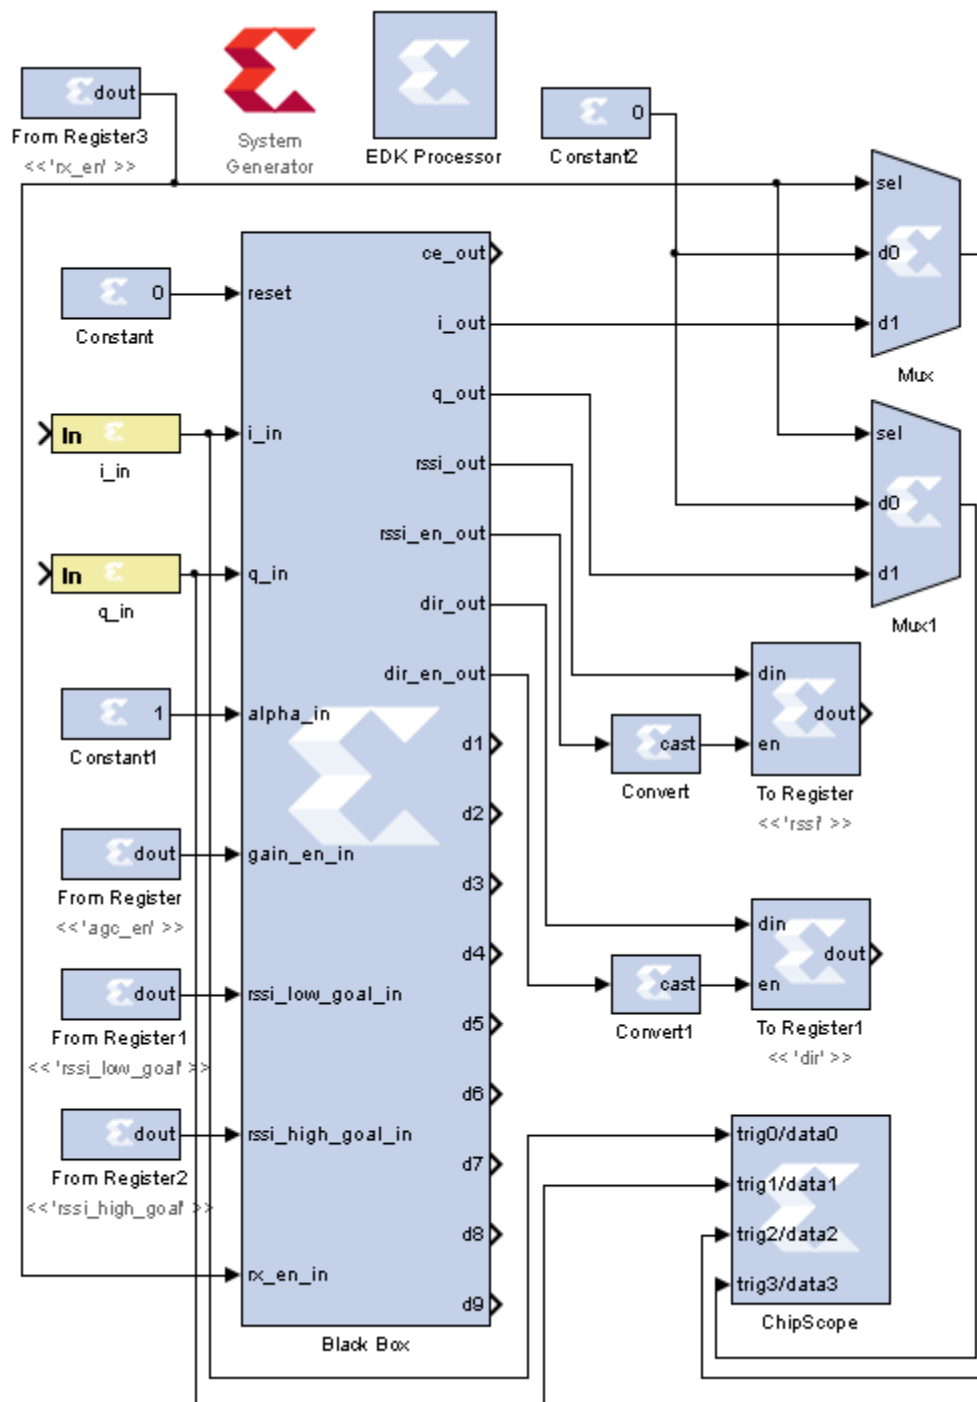

Figure 2-4: Simulink model for receiving ADC output and applying DC Offset Correction
Now we will modify the previously created `dc_offset.slx` model created earlier. Your design should resemble the **Simulink model**³ shown in Figure 2-4. This model will be used for receiving the ADC output and sending the resultant data to ChipScope for verification. You should notice that several of the outputs of the design (d1-d9) are not connected. These outputs are debug outputs, and only need to be used for finding problems within your design. They have not been included in this lab, however if you have problems with your design, you can simply add these output to your ChipScope input block for help in finding problems with your MATLAB design.
1. **Modify** the Simulink model `dc_offset.slx` created earlier to look similar to Figure 2.4.